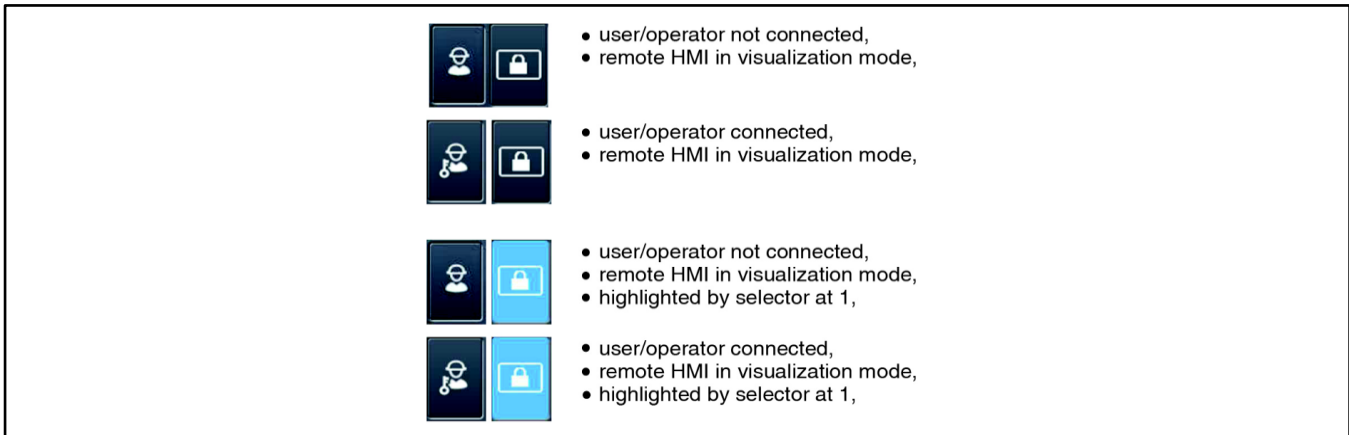

Figure 55 Remote HMI Indication
In the case of a Remote HMI in Visualization mode, the icons in Figure 55 show the various displays of key 2.